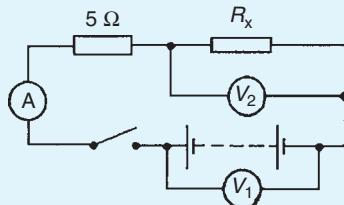

Figure 5.10
3. When the switch in the circuit in Fig. 5.10 is closed the reading on voltmeter 1 is 30V and that on voltmeter 2 is 10V. Determine the reading on the ammeter and the value of resistor R_x [4 A, 2.5 Ω]